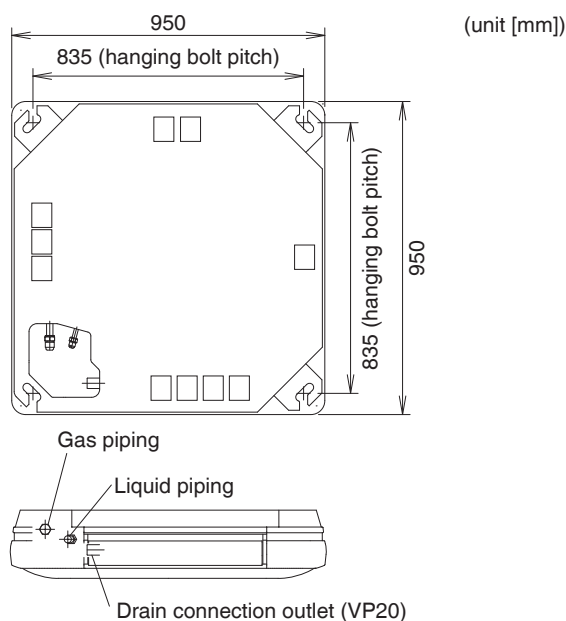
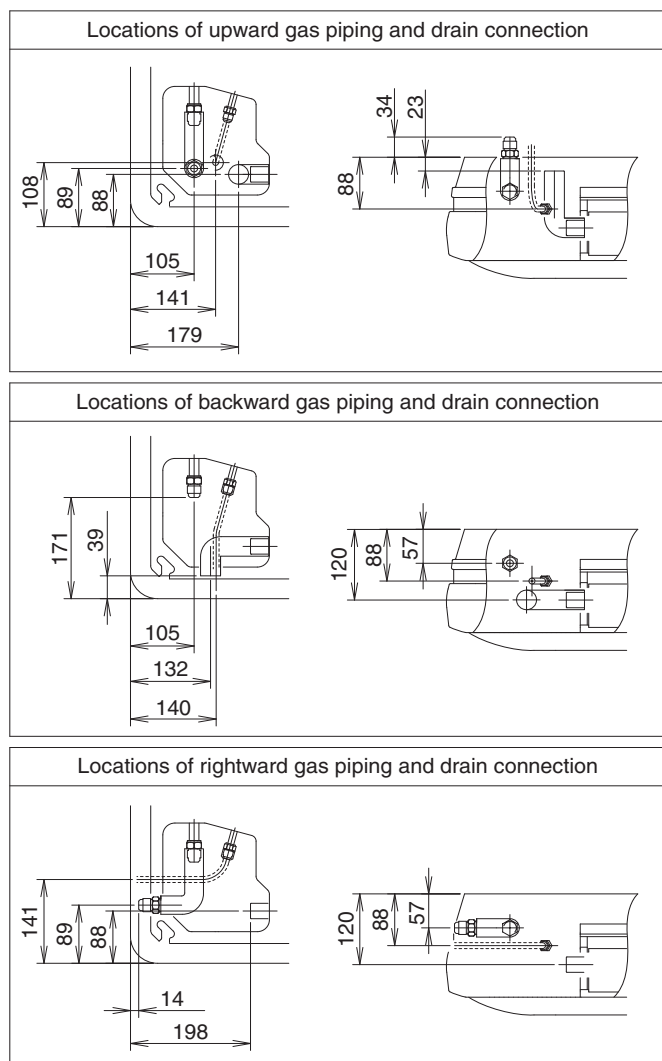

Fig. 5
Fig. 6
- Check the locations of indoor unit hanging bolts, piping outlet holes, drain piping outlet hole and electric wirings inlet hole. (The drawing shows the view from the ceiling.) (Refer to Fig. 5 and Fig. 6)